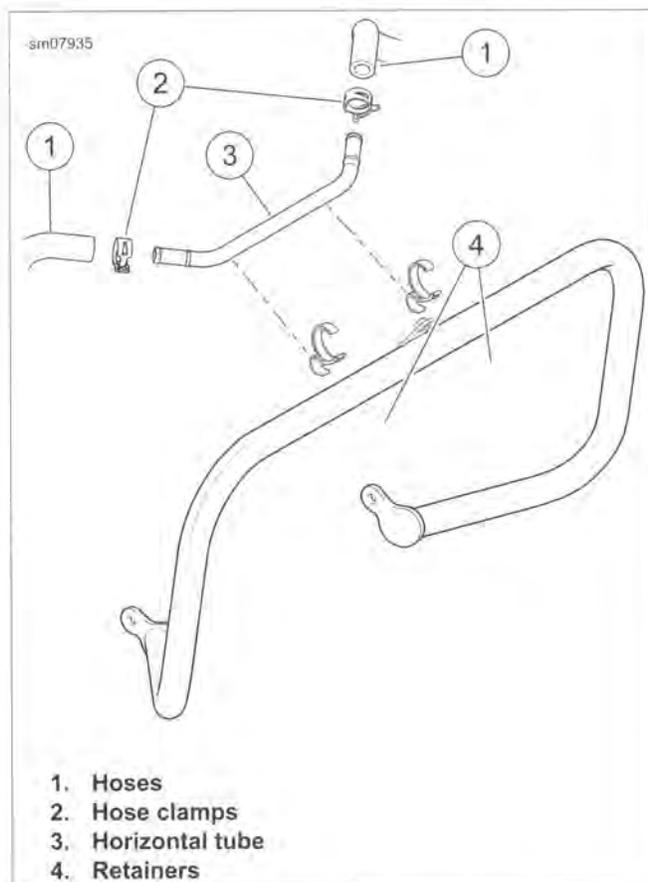

Figure C-8. Coolant Horizontal Line
2. See Figure C-8. Release retainers (4).
3. Remove clamps (2).
4. Disconnect hoses (1). Remove horizontal tube (3).
1. See Figure C-8. Place horizontal tube into position. Connect hoses (1).
2. Install retainers (4).
3. Install clamps (2).